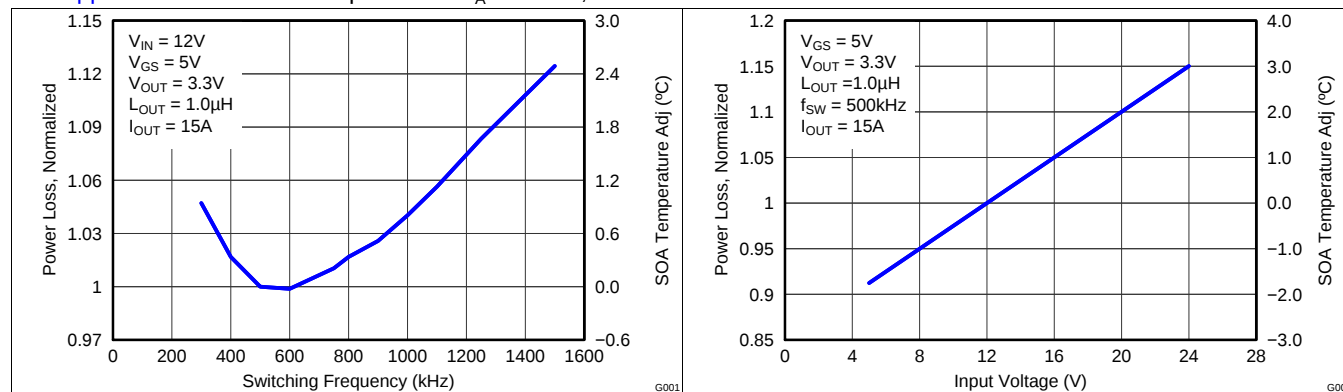

Figure 6. Normalized Power Loss vs Switching Frequency
- Normalized Power Loss for switching frequency ≈ 1.04 (Figure 6)
- SOA adjustment for switching frequency $\approx 0.8^{\circ}\text{C}$ (Figure 6)